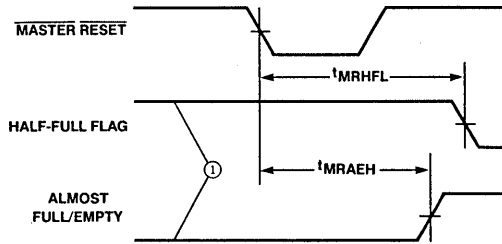

Figure 9.  $t_{MRHFL}$ ,  $t_{MRAEH}$  Specifications
The Half-Full (HF) will be high only when the net balance of words shifted into the FIFO exceeds the number of words shifted out by thirty-two or more (i.e., when the FIFO contains thirty-two or more words). The Almost-Full/Empty (AFE) flag will be HIGH when the FIFO contains fifty-six or more words or when the FIFO contains eight or fewer words (see Figures 9, 10, and 11).